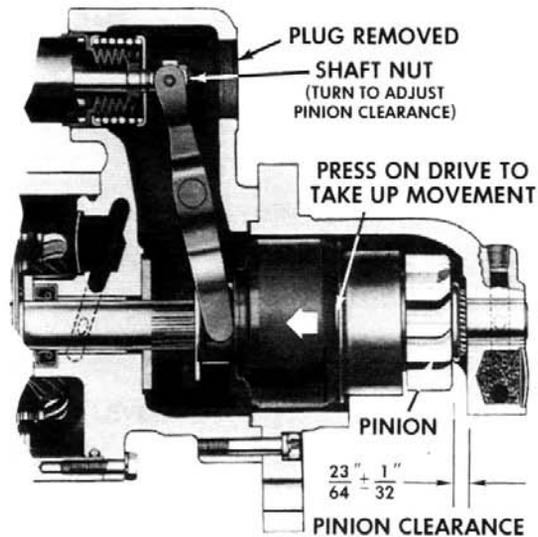

Figure 12—Measuring pinion clearance
4. Measure the distance between drive and housing (Fig. 12).
5. Adjust clearance by removing plug and turning shaft nut (Fig. 12). **Although typical specifications are shown, always refer to 1M-188 for specifications applying to specific models.**